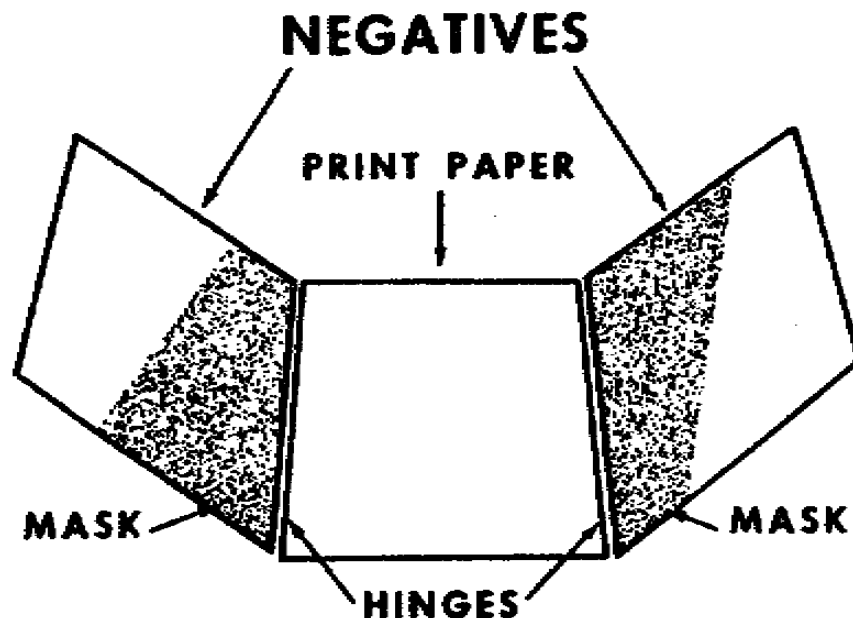

Figure 3-11. Masking
(1) Method one as shown in Figure 3-11. Mask the portion of each negative that will not be used, then expose the print twice, once with each negative. This is not a double exposure because the masked areas of the negatives keep light from striking the print. Carefully align the print paper and each negative in order to get the line copy and the continuous-tone copy into the proper position with respect to each other on the print. You can do this by hinging or taping the negative edges together.